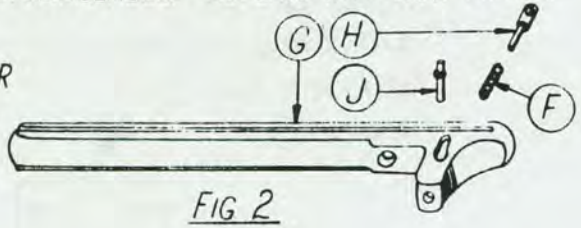

FIG 2
(29) INSERT SPRING (F) IN OPERATING HANDLE (G), FIG. 2. WITH COUNTERSUNK SIDE OF HOLE UPWARD, INSERT PLUNGER (H), DEPRESSING SPRING (F) UNTIL PIN (J) CAN BE INSERTED.